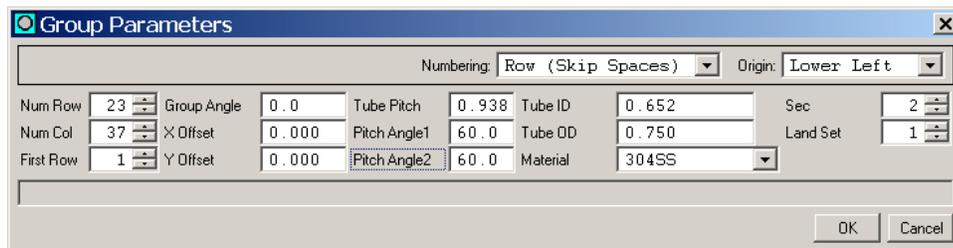

Figure 7-16. Completed Group Parameters Dialog for Section 2
- STEP 8:** The *Group Parameters* dialog should look like Figure 7-16. Click **OK** on the *Group Parameters* dialog.